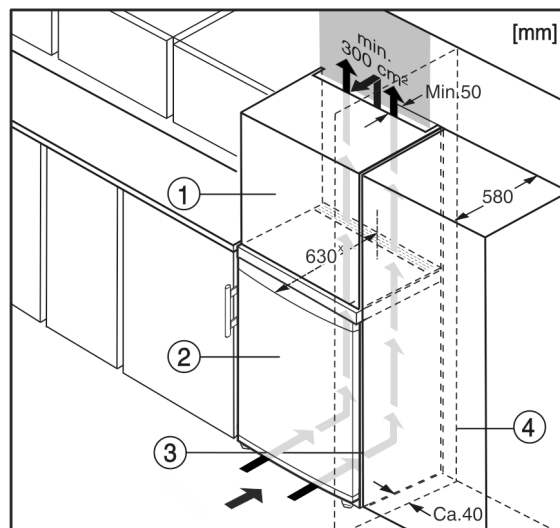

Fig. 5
The appliance can be built into kitchen units. A top cupboard Fig. 5 (2) can be added above the appliance in order to bring the appliance Fig. 5 (1) up to the height of the fitted kitchen units.
If you are integrating the appliance into a kitchen unit (max. depth 580 mm) you can install it right next to the kitchen cabinet Fig. 5 (3). The appliance measures 34 mm \* at the side and 50 mm \* at the centre in relation to the front of the kitchen cabinet.
If you are installing the appliance with the hinges next to a wall Fig. 5 (4), the distance between the appliance and the wall must be at least 40 mm. This is how far the handle protrudes when the door is open.